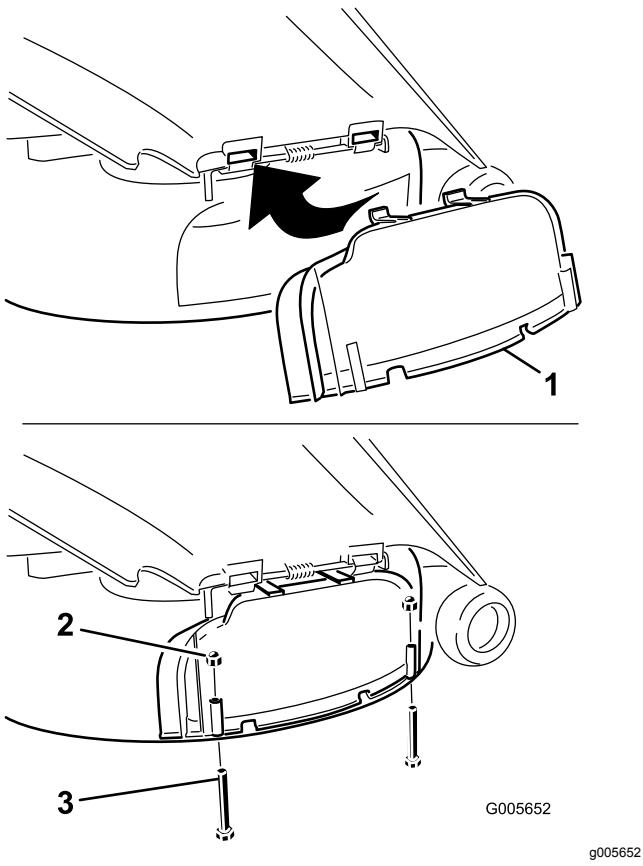

Figure 25
5. Rotate the discharge cover down over the opening, and onto the lower lip of the mower (Figure 25).
- 6. Secure the discharge cover to the lower lip of the mower with 2 bolts (1/4 x 2-1/2 inches) and 2 cap nuts (1/4 inch) as shown in Figure 25.